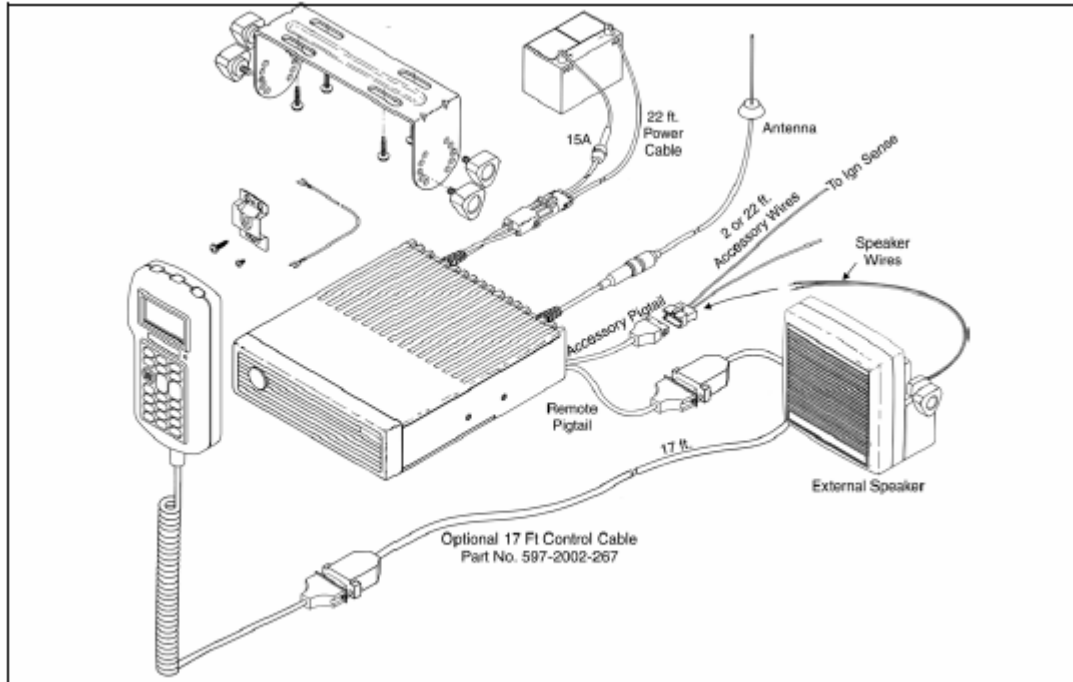

Figure 2-11 HHC Installation Components (Junction Box Not Used)
Junction Box Not Used (Figure 2-11)
2. Route the 17-foot (5-meter) control cable from the remote pigtail of the transceiver to the control unit as shown in Figure 2-11. Secure the connectors using the captive screws.